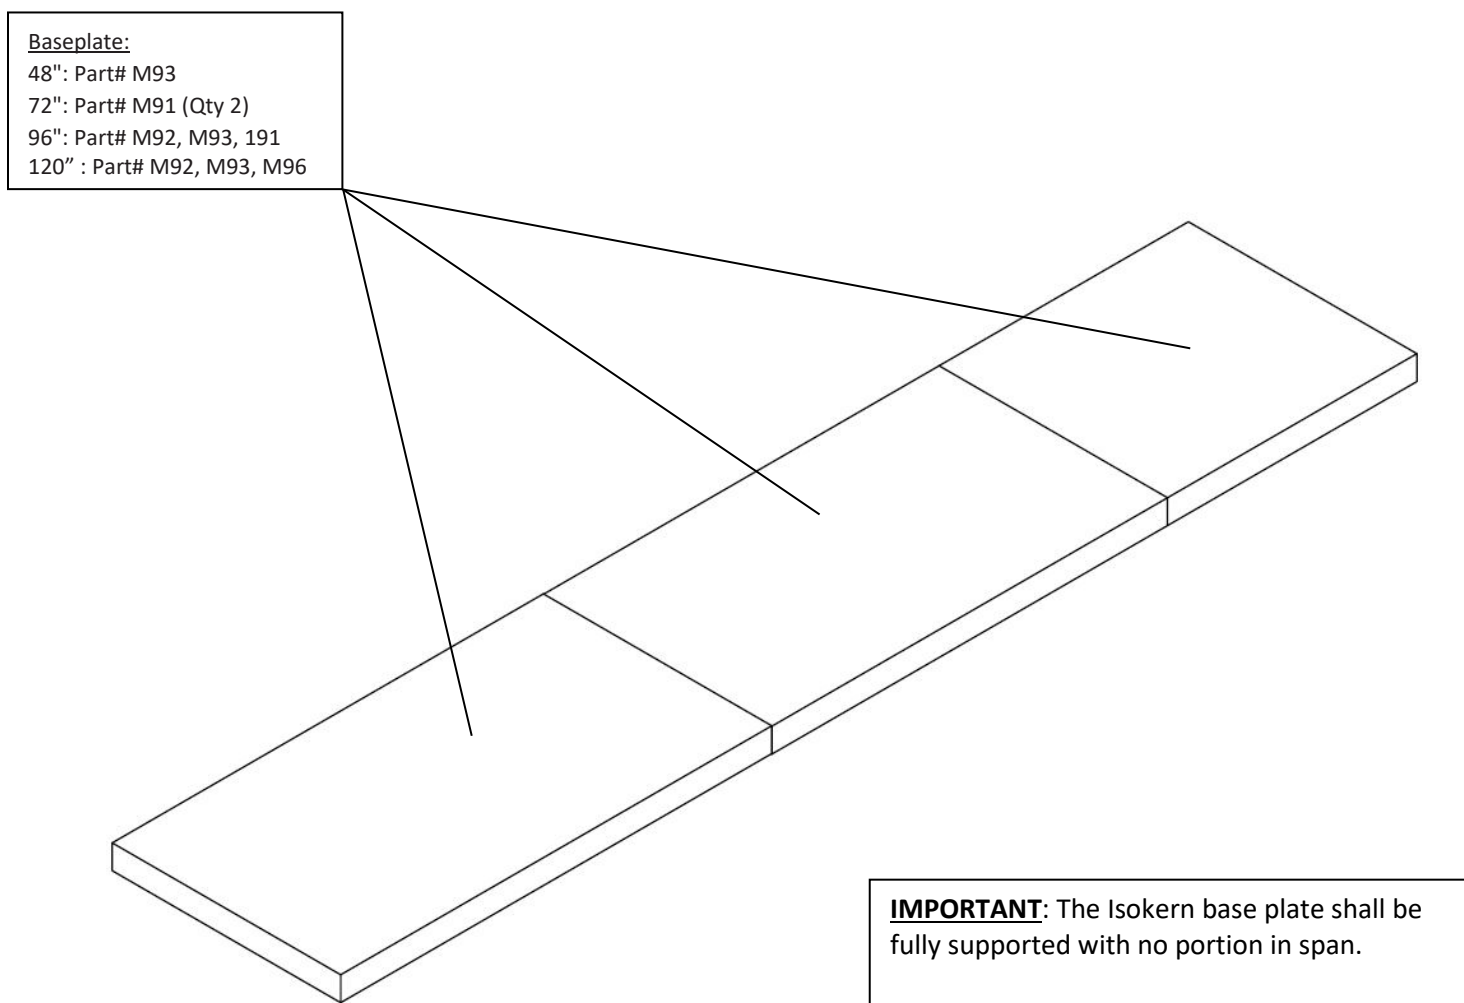

FIGURE 9
- 1) Apply Earthcore Adhesive to the joints between each baseplate part and ensure to set each base plate in a full bed of Earthcore Adhesive on a level support surface (**Figure 9**). See page 15 for information regarding the supporting floor system. Do not set the base plate so that it is in span. Refer to pages 6-13 for part and assembled firebox dimensions.